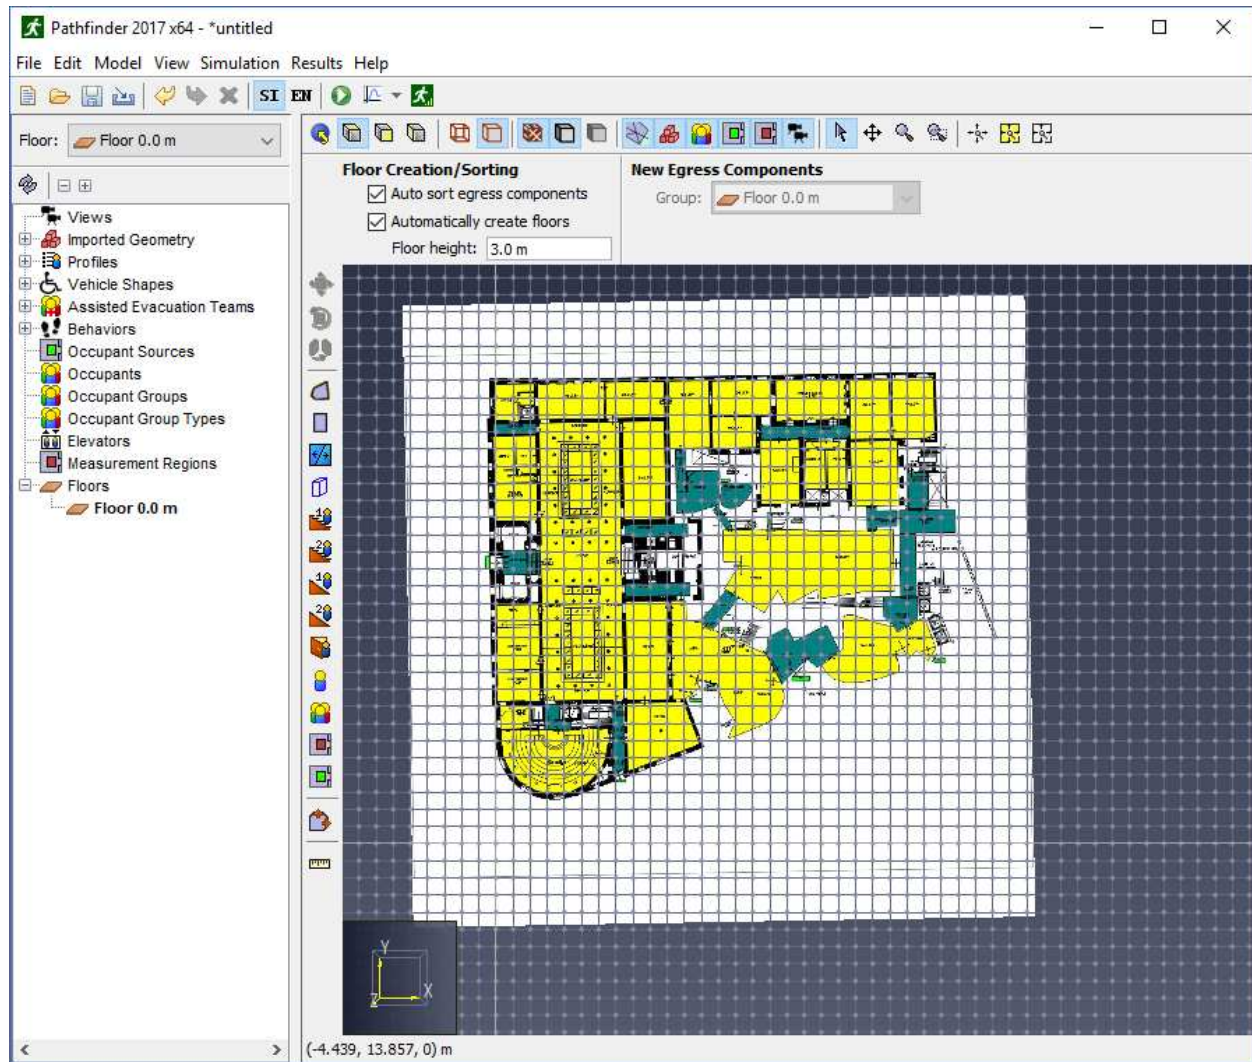

Figure 69. Background image added to the model.
5. Click **OK** and the image will be placed in the model as specified (Figure 69).